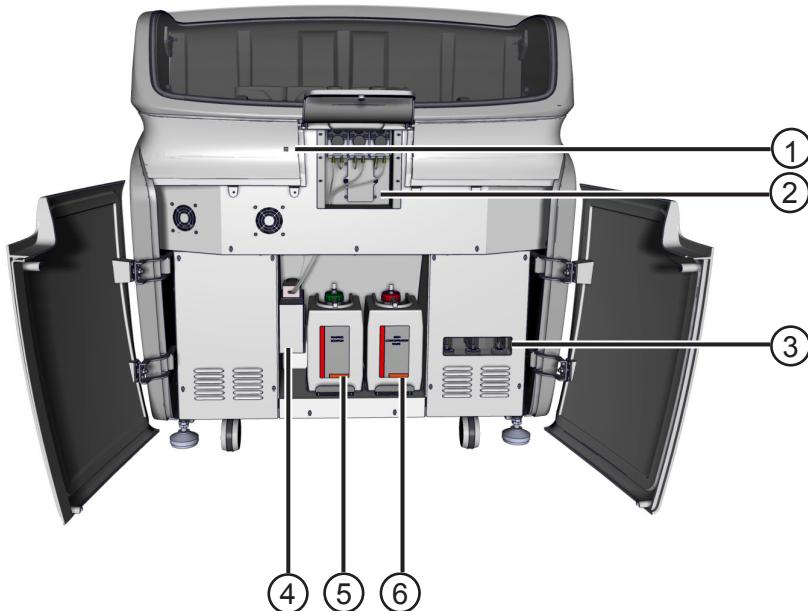

Figure 3 Internal components
If you open both front doors, you will see two bottles inside. The one on the right is the high contamination waste bottle (6) and the one on the left contains the washing solution (7). See Figure 3.